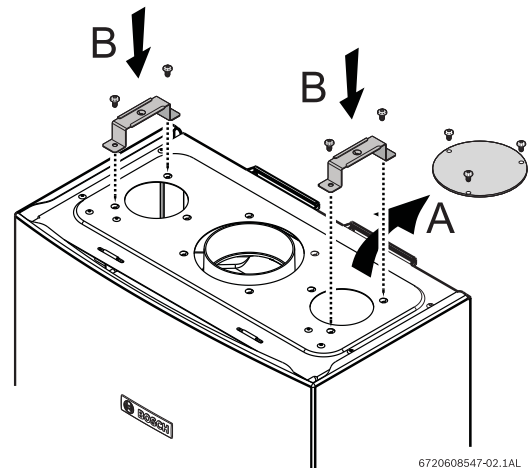

Fig. 4
- 1. Remove the cover plate (A) from the top of the appliance, as shown in Fig. 4.
- 2. Attach the supports (B) to the appliance with the four provided screws, as shown in Fig. 4.